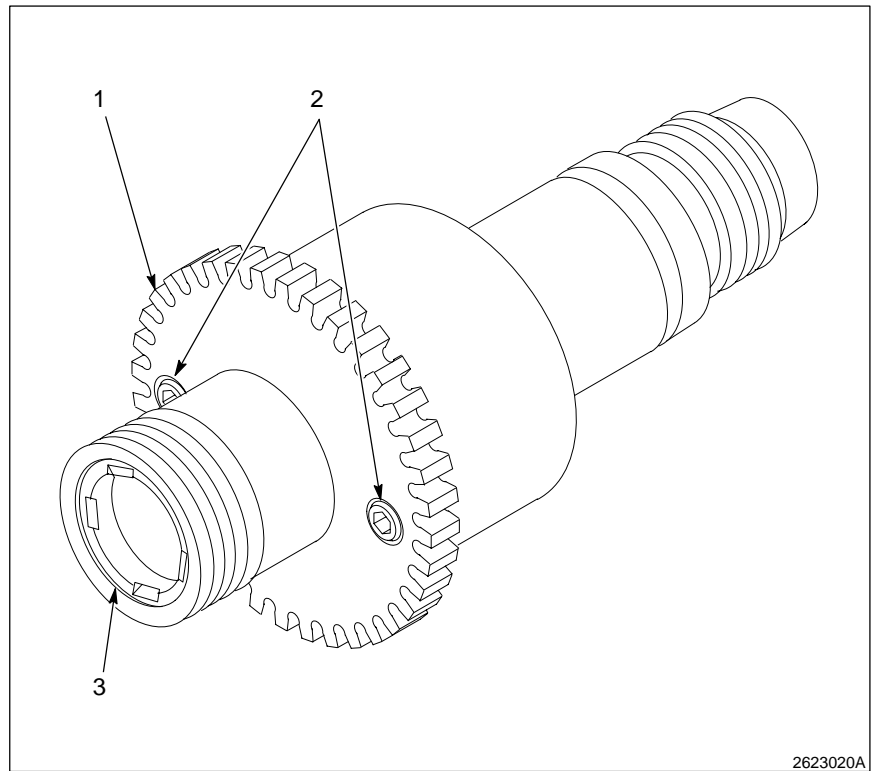

Fig. 7-9 Spindle assembly
1. See Figure 7-9. Remove the gear (1) from the spindle by removing the 2 retaining screws (2).
2. Remove the rear seal (3) only if necessary. If the seal is removed, replace the seal with a new one.
2. See Figure 7-9. Install a new rear seal (3) if necessary.
3. Attach the gear (1) onto the spindle with the counter-sink facing out. Torque in equal intervals the 2 screws (2).